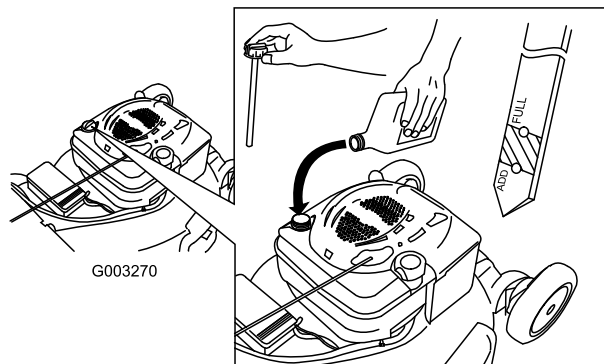

Figure 7
1. Remove the dipstick (Figure 7).
2. **Slowly** pour oil into the oil fill tube until the oil level reaches the Full line on the dipstick (Figure 7). **Do not overfill.** (Max. fill: 20 oz. (0.59 l), type: SAE 30W detergent oil with an API service classification of SF, SG, SH, SJ, SL, or higher.)